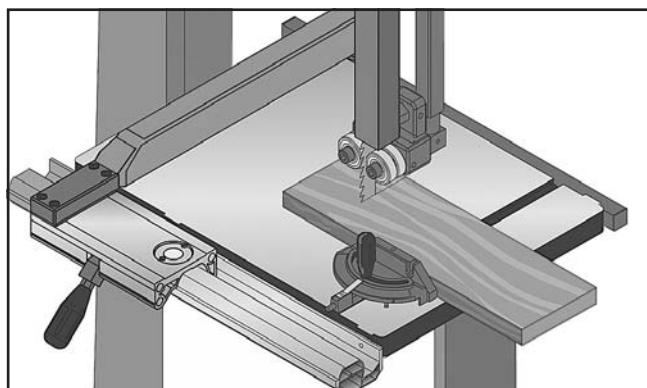

Figure 53. Example of a crosscutting operation with the miter gauge.
5. After all safety precautions have been met, turn the bandsaw **ON** and wait for it to come to full speed. Slowly feed the workpiece into the blade until the blade is all the way through the workpiece. **Figure 53** shows an example of a crosscutting operation.